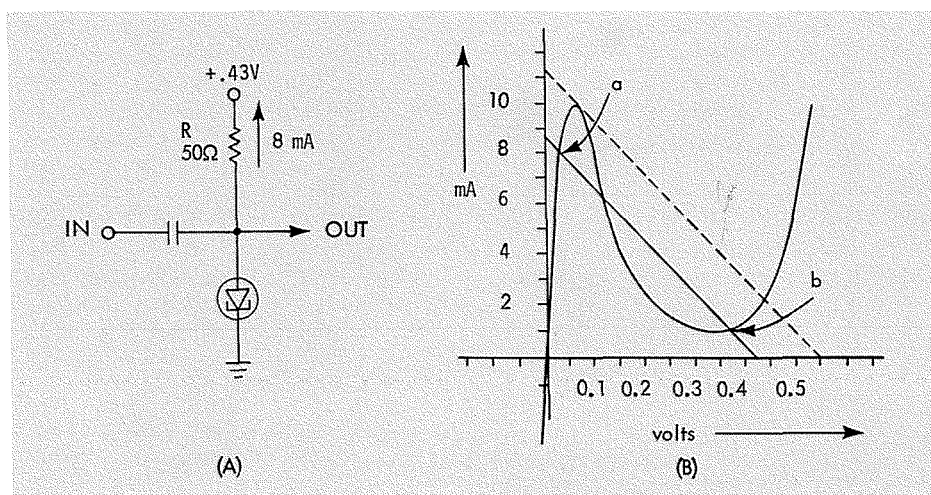
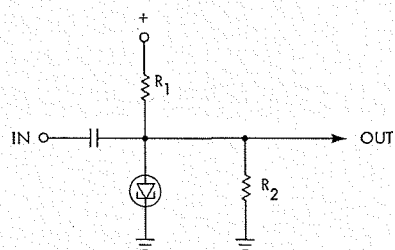
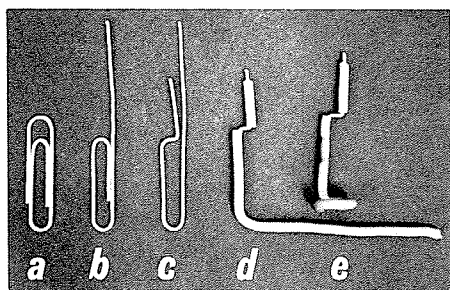
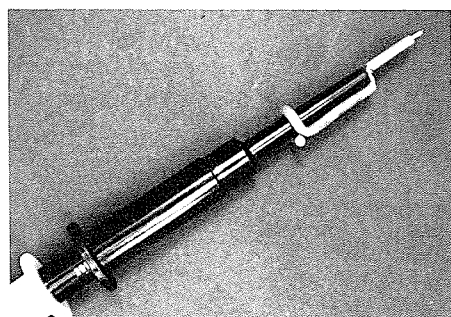

Figure 3 (A) Basic tunnel diode switch for monostable operation.
Figure 4
Figure 1. Progressive steps in forming the retractable-hook tip extender.
Figure 2. Completed insulated extender in position on a retractable-hook tip.
In order to understand the operation of the back diode, let us consider a few basic circuits. Figure 2 shows a basic tunnel-diode (TD) switch.
Figure 2 (A) Basic tunnel-diode switch circuit for bi-stable operation. (B) AC and DC load lines superimposed on a 10-mA curve of the tunnel diode in Figure 2, (A).
The TD must return to the low-voltage state to respond to the next trigger signal. One way to insure that the TD always returns to the low-voltage state after a trigger occurs is to use a very small series R and a low voltage source. See Figure 3.
(B) AC and DC load lines superimposed on a 10-mA curve of the tunnel diode in Figure 3, (A).
the output voltage in Figure 3 less than the output voltage of the circuit in Figure 2. The duration of the output signal is the same as the input signal, resulting in monostable operation.
Figure 4 shows another method of obtaining the low impedance load described in the previous paragraph. This circuit has the same characteristics as the circuit in Figure 3 except:
Figure 1 shows the steps in forming the extender. A. Start with an ordinary paper clip. B. Straighten the outside wire. C. Bend the inside wire to leave a crook. D. Bend the longer wire to form a right angle to the short wire and slip two pieces of insulation over the wire leaving the crook bare. E. With the retractable-hook tip, grip the partially formed extender at the crook and wrap the longer insulated portion around the shaft of the retractable-hook trip to form a one turn coil. Figure 2 shows a probe with the retractable-hook tip gripping the completed extender.